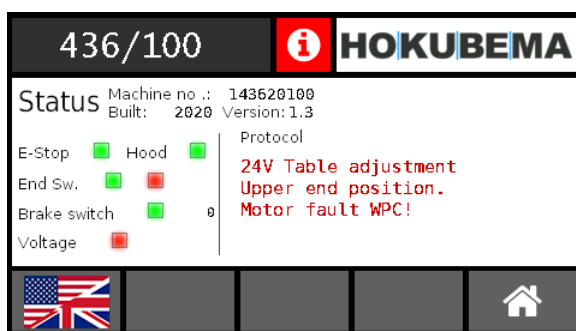

Figure 26: Info menu with status messages
- Status messages (example ⇒ Figure 26): Here the required 24 V voltage for the thickening table is missing. In addition, there is a motor fault WSK (winding protective contact). Operation is only possible after the faults have been remedied. If the end position symbol is active, you must first move out of the end position range in the opposite direction so that the message becomes inactive and the control unit can be used for positioning again (⇒ 11.4.1).